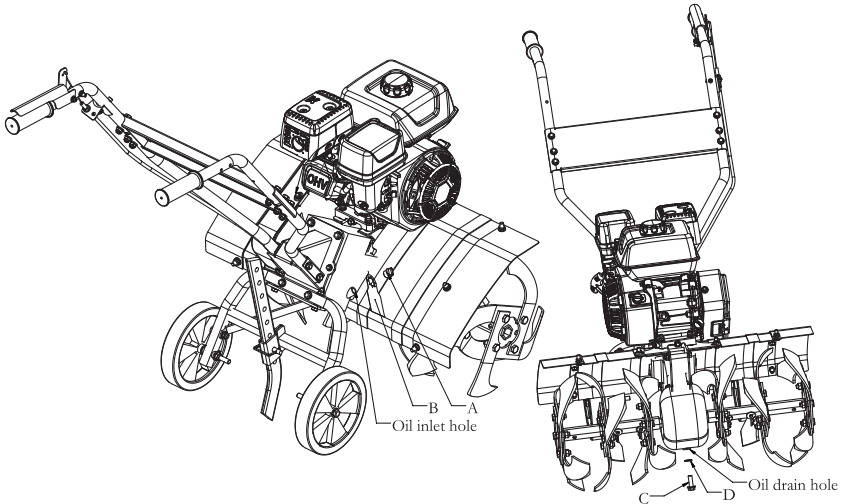

Fig. 15
2. Remove the oil cover (A) by counterclockwise at the top of the gearbox and the warning card (B) (See Figure 15).
3. Remove the bolt (C) and the sealing gasket (D) at the bottom of the gearbox, drain the oil until it is clean.
4. Mount the sealing gasket (D) and the bolt (C) back.